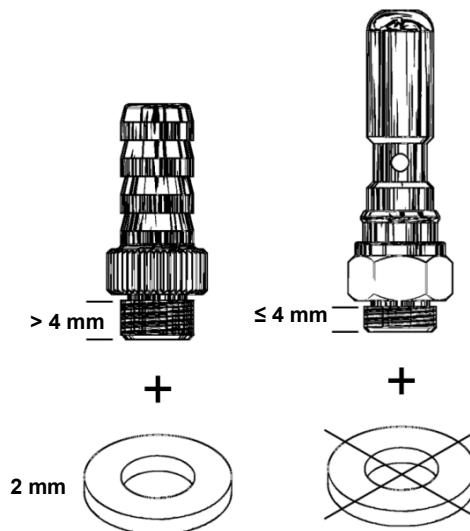

Fig. 6: Thread lengths of the adapter
2. With adapters with a thread length of > 4 mm add as many flat washers until the thread protrudes by max. 4 mm (Fig. 6).